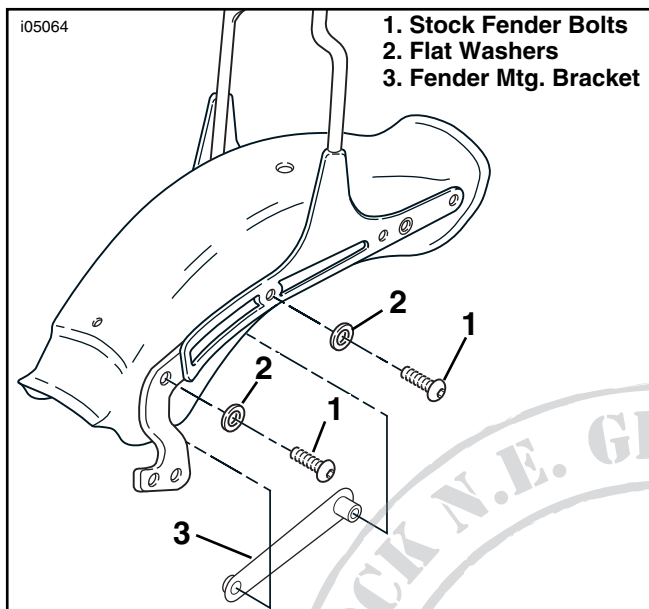

Figure 9. Fender Hardware Removal, 2003 and Later FXST, FXSTB, FXSTS
1. See Figure 9. Remove the two forward rear-fender bolts (1), washers (2) and fender mounting bracket (3) on one side of the vehicle. Discard the bolts, but save the bracket and washers for re-use.